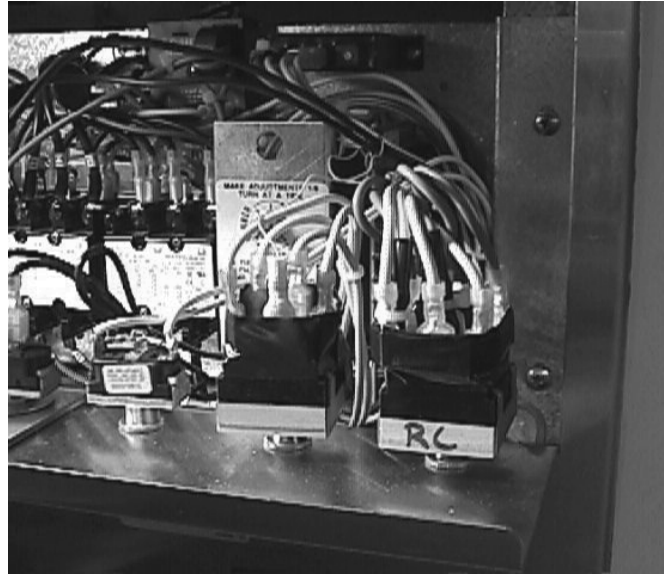

Figure 47. Electrical Panel Screws
10. Remove the dryer by cutting the refrigeration lines, then with an open port sweat in the replacement drier. Make certain the arrow points in the direction of flow. Figure 47.